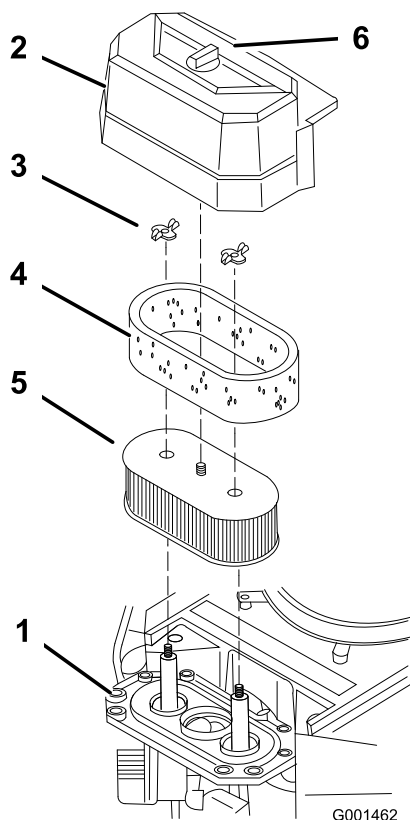

Figure 32
3. Clean around the air cleaner to prevent dirt from getting into the engine and causing damage (Figure 32).
4. Unscrew the cover knob and remove the air cleaner cover (Figure 32).
5. Remove the 2 wing nuts and remove the air cleaner assembly (Figure 32).
6. Carefully pull the foam element off the paper element (Figure 32).
Do not clean the paper filter. Replace it after 200 operating hours (Figure 32). Inspect the element for tears, an oily film, or damage to the rubber seal, and replace it if it is damaged.
1. Carefully slide the foam element onto the paper air cleaner element (Figure 32).
2. Place the air cleaner assembly onto the air cleaner base and secure it with the 2 wing nuts (Figure 32).
3. Place the air cleaner cover into position and tighten the cover knob (Figure 32).